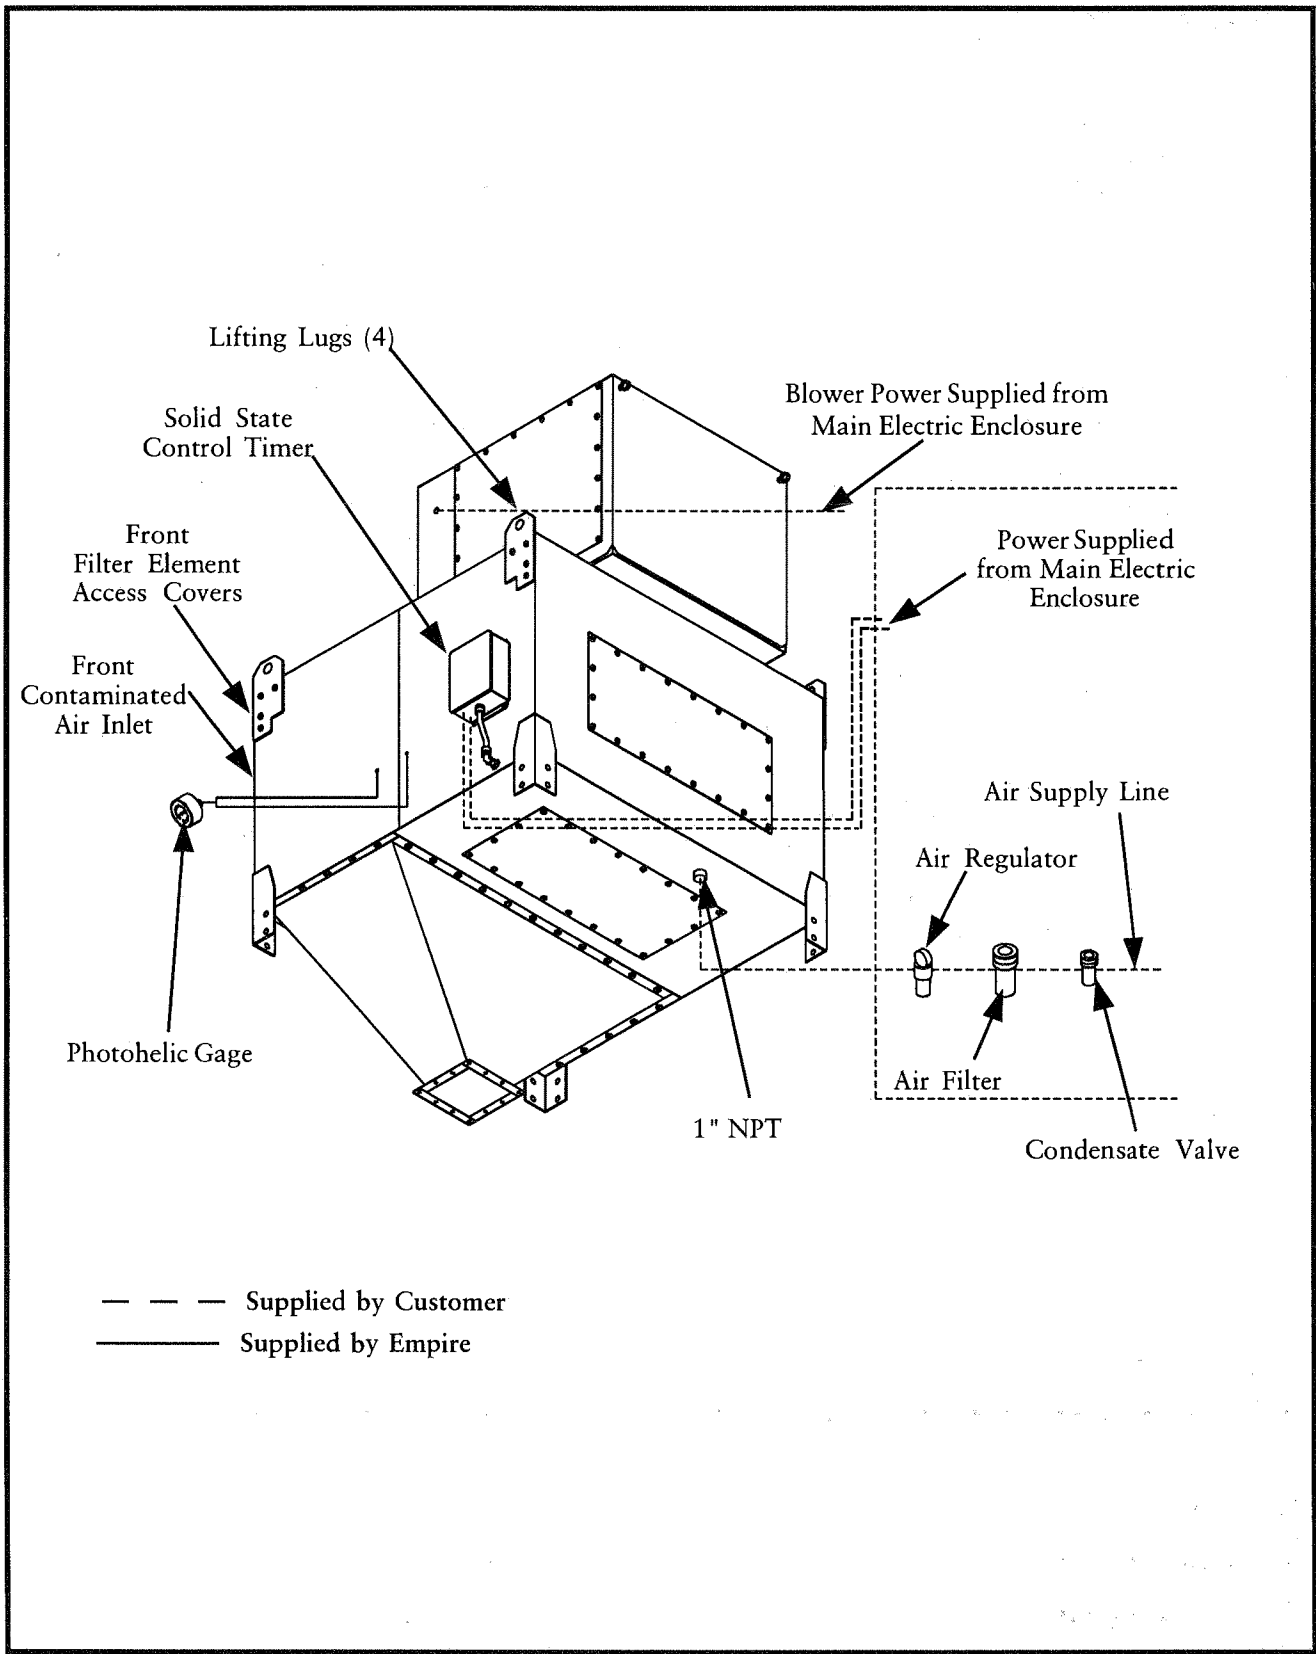

Figure 1
2.0 Installation (See Figure 1)
2.4 Pre-Installation (See Figure 1)
2.5 Assembly of Standard Equipment (See Figure 1)
8. Before disconnecting the crane, recheck all of the hardware to make sure it is securely tightened. After checking hardware, disconnect the collector from the crane (refer back to Figure 1 for Typical Installation.)